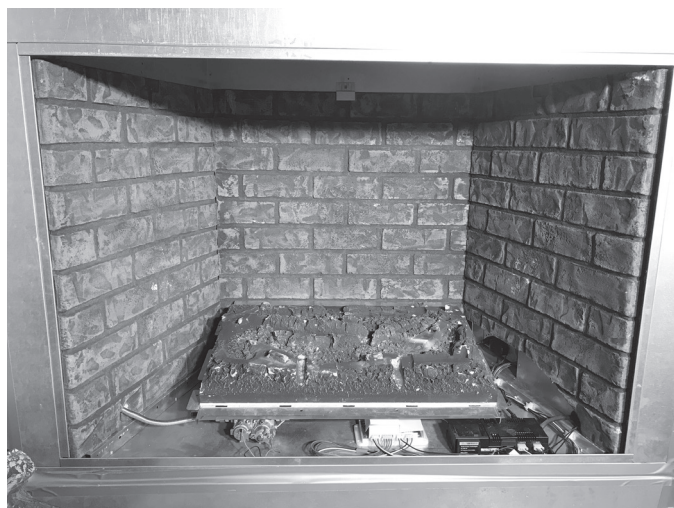

Figure 11.9
- Set Left & Right Side Refractories in place. See Figure 11.9.